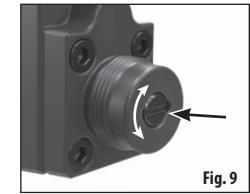

Fig. 9
5. Using a small flat head screwdriver, turn the screw clockwise to decrease the regulated pressure or counter clockwise to increase the regulated pressure (Fig. 9).